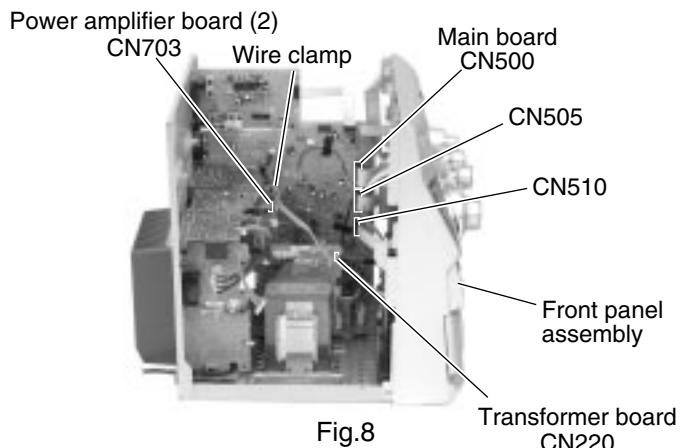

Fig.8
■Removing the front panel assembly (See Fig.8 to 12)